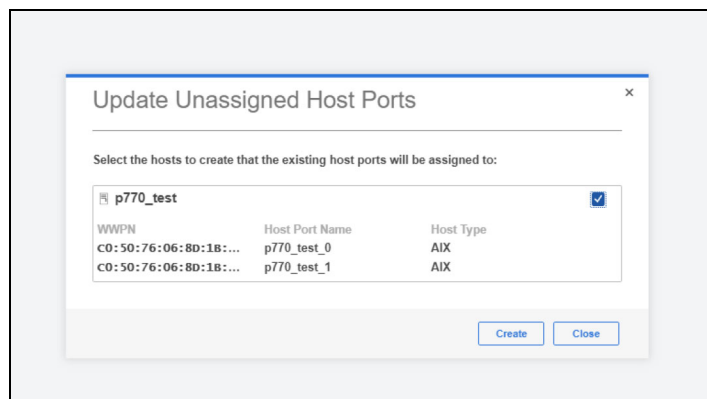

Figure 9-57 Update Unassigned Host Ports
- Click **Automatically Create Hosts**. A list of detected hosts and unassigned host ports is displayed, as shown in Figure 9-57. Verify the list and click **Create** to complete the assignment task automatically.